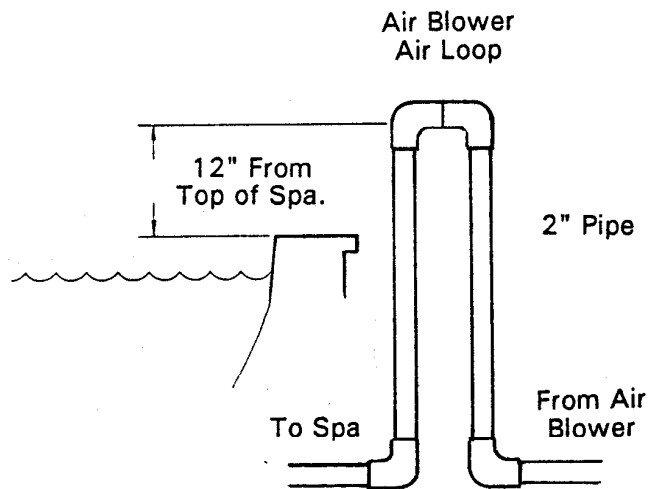

Figure 1
6. The air blower on the Equipment Module, if so equipped, must be connected to a check valve and/or air-loop assembly (Figure 1) designed to assure that spa water cannot flow into the air blower motor.